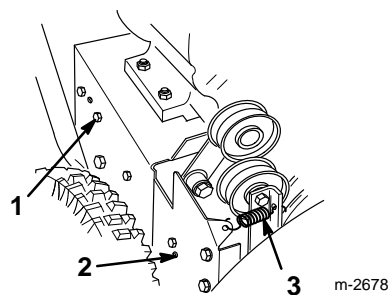

Figure 27
3. Loosen the auger brake arm assembly by loosening the rear screw and removing the front screw (Fig. 27).
4. Remove the idler pulley spring (Fig. 27). Let the brake arm assembly hang free but out of the way.
3. Loosen the auger brake arm assembly by loosening a rear screw and removing the front screw that fasten the auger brake arm assembly to the frame (Fig. 27).